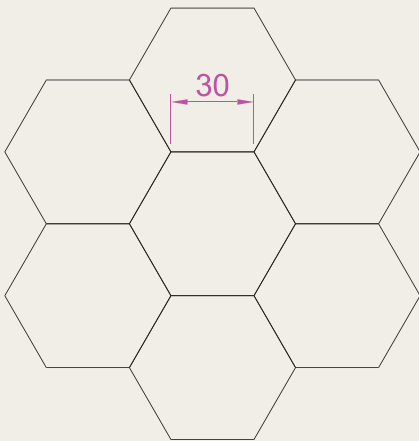

Fig. 3.51 Exercise 7
7. Figure 3.51 shows seven hexagons with edges touching. Construct the inner hexagon using the **Polygon** tool, then with the aid of the **Edge** prompt of the tool, add the other six hexagons.